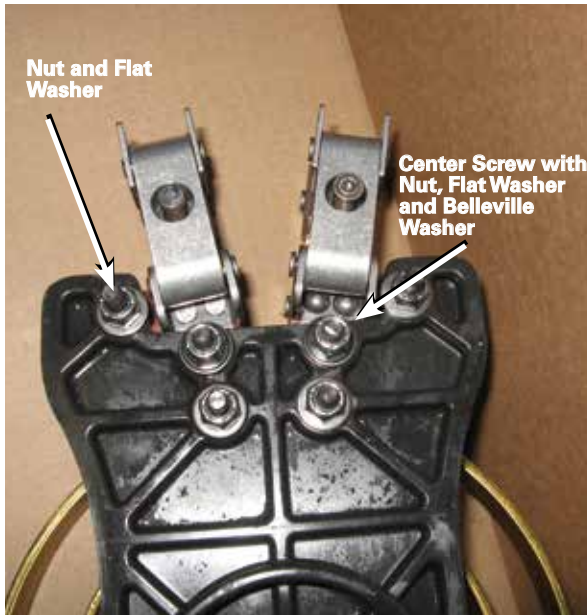

Figure 13. Removal of contacts.
12. The two replacement movable contact assemblies are identical; therefore, they can be installed in either position on the movable contact panel. Position one of the replacement movable contact assemblies between the contact ring and the movable contact panel and align the holes. Insert the three button head screws from the contact ring side of the assembly so the screw heads secure the contact ring in place. On the side opposite the contact ring, place a flat washer on all three screws. Place a Belleville washer on the center screw and thread a Nylok® nut onto all three screws. Tighten the Nylok® nuts to 65 to 75 in-lbs (7.3–8.5 Nm) using a 7/16" deep well socket wrench while holding the screw in place with a 5/32" hex wrench. Refer to Figures 13 and 14. Repeat this procedure for the other movable contact assembly.